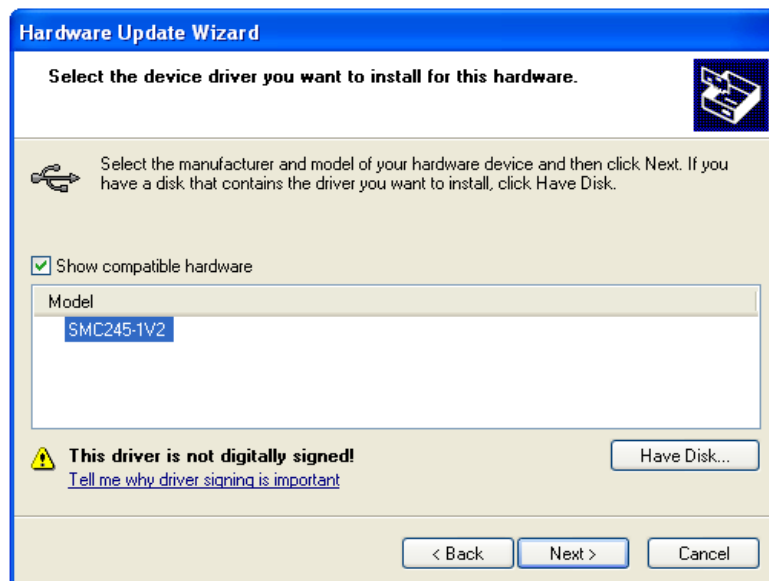
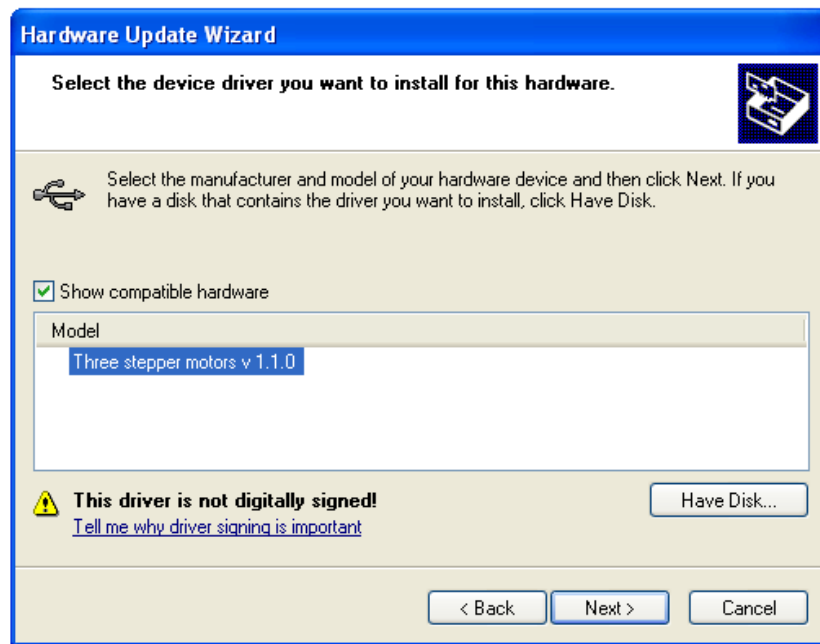

Fig. 51
Fig. 52
- Choose "SMC245-1V2" (*Fig. 51*). (Three stepper motors v 1.1.0.) (*Fig. 52*). Click "Next"